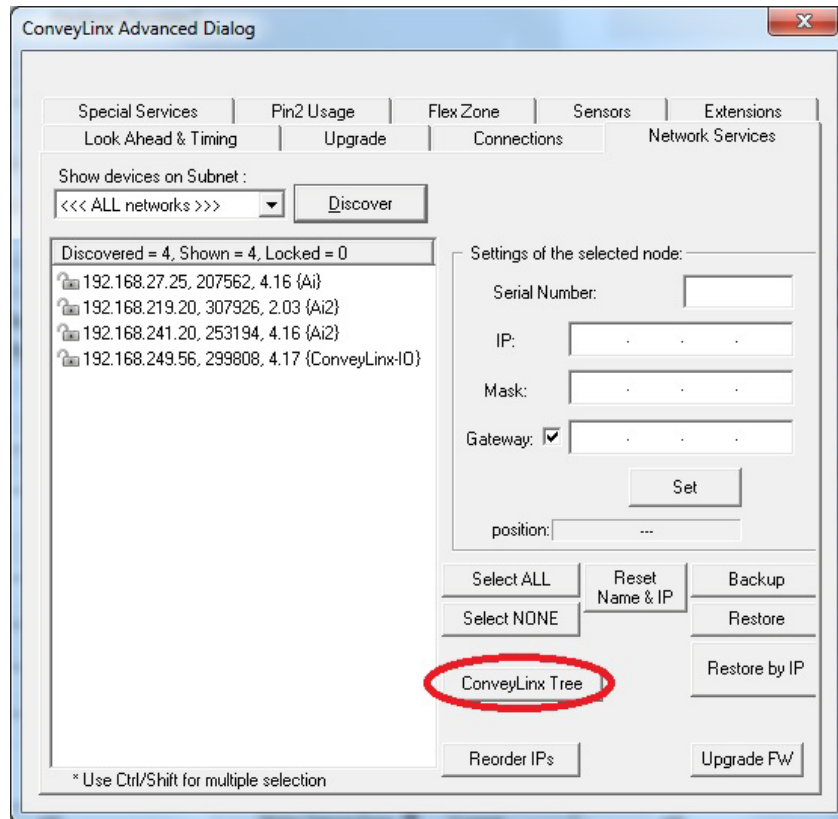

FIGURE 19 - DISCOVER PROCEDURE ON CONVEYLINX-AI2 MODULES
2. When the *ConveyLinx* modules appear in the module table, select the ones that you want to configure and click "ConveyLinx tree" as shown in Figure 19.